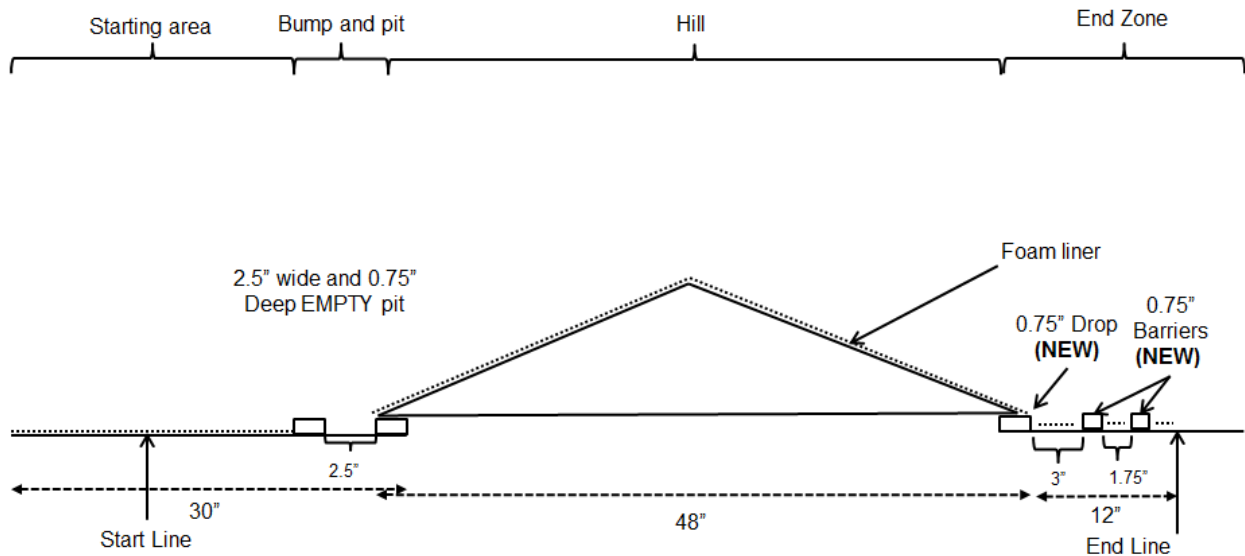
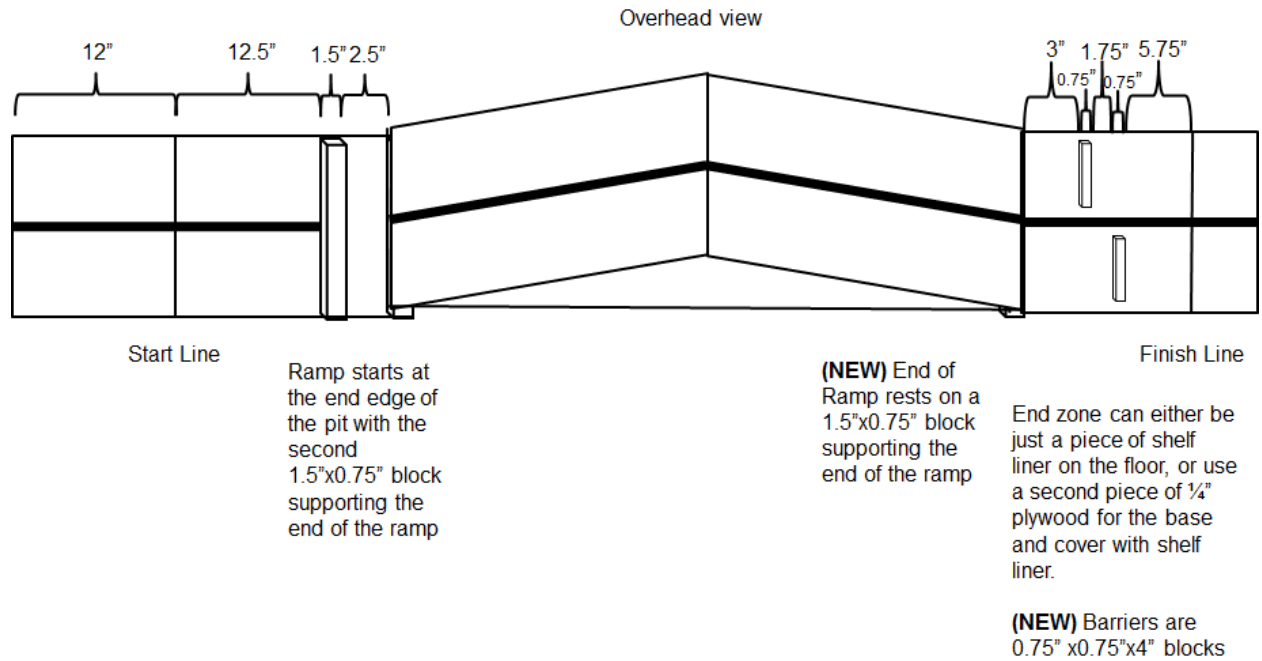
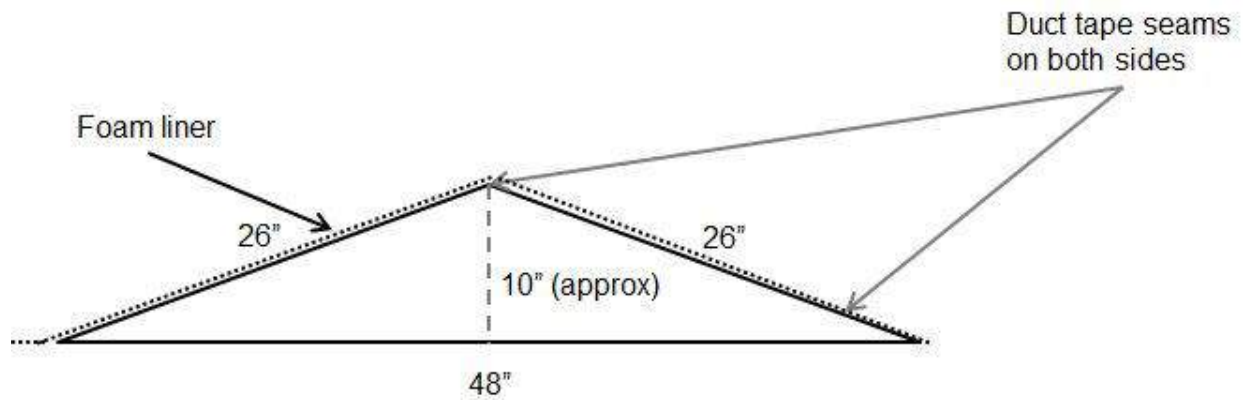

Figure 26 - Steeplechase Course - Side View
Figure 27 - Steeplechase Course - Overhead View
Figure 28 - Hill Detail
- 2) Course: (see Figure 26, Figure 27, Figure 28, Figure 32, and 33)